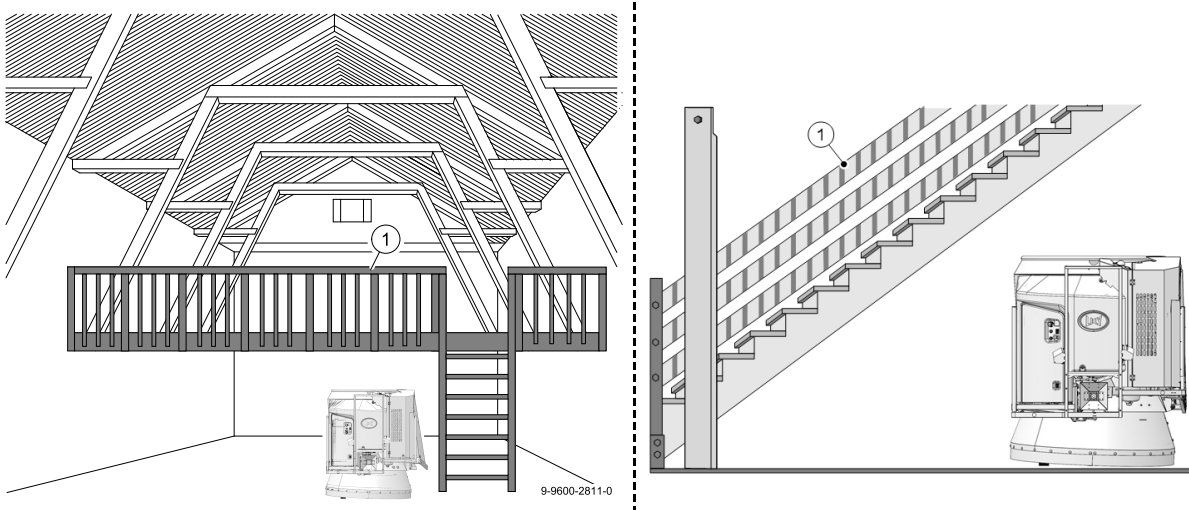

Figure 19. Stairway and attic
- If the route of the Mixing and Feeding Robot is under an accessible attic or stairway (see figure 19 on page 2-31), these must have a railing (1) installed (according to NEN-EN-ISO 14122). This prevents people from falling into the Mixing and Feeding Robot.